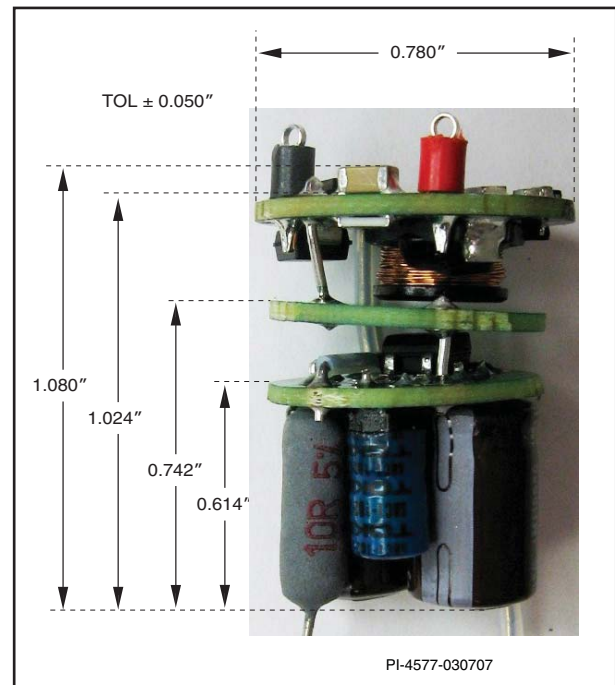

Figure 3. Assembled Unit, Dimensions: 0.78 × 1 inch (19.8 × 25.4 mm).
- To prevent EMI coupling between the switching nodes on the main board and the input filter board, a shield board (connected to C2 negative) was placed between the two PC boards (see Figure 3). This greatly improved the margin to the conducted EMI limits.